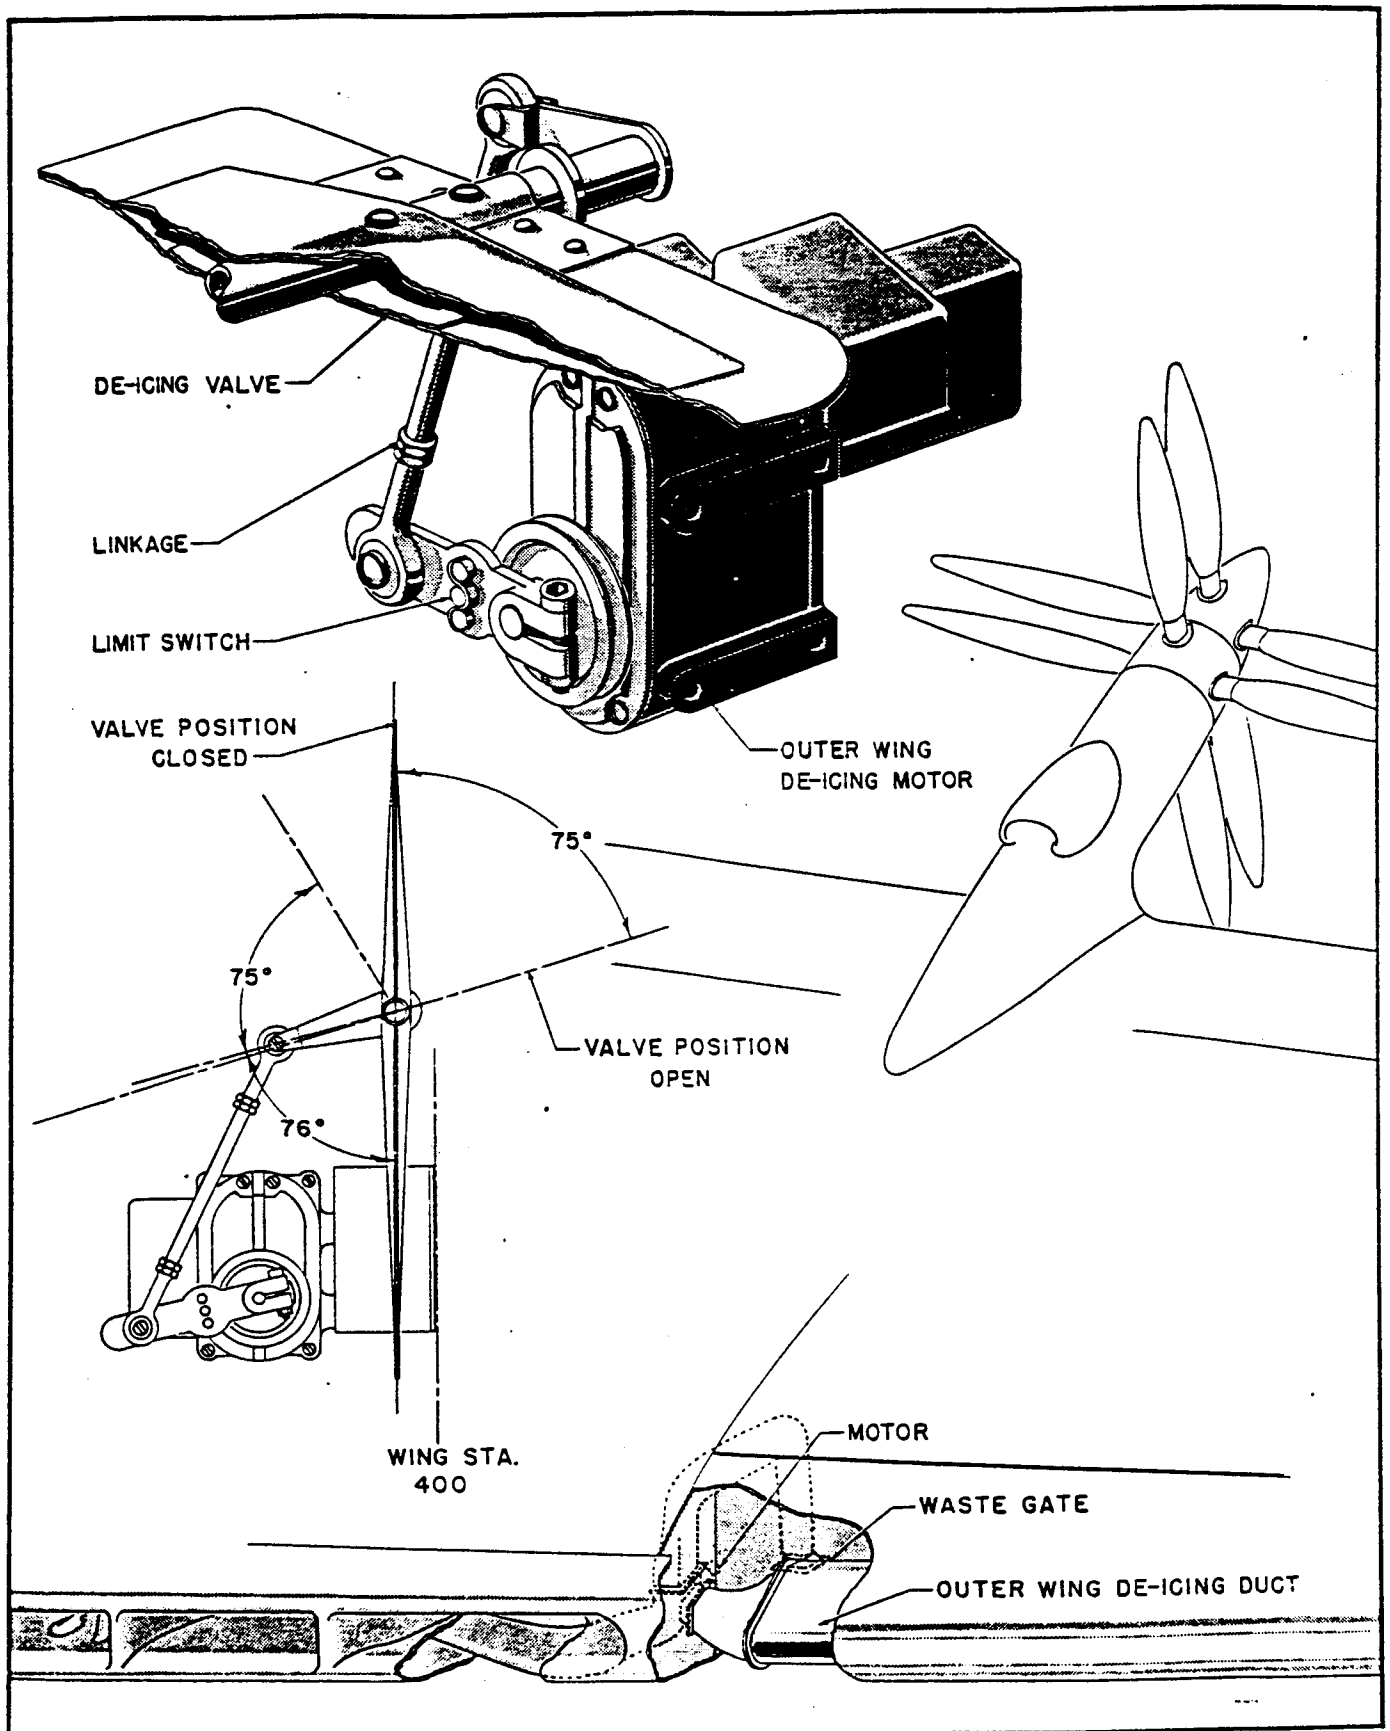

Figure 39. Outboard Wing De-icing Valve
the exhaust heat exchanger. The rammed cooling air for the outboard heat exchanger, after picking up heat from the exhaust, is normally directed through respective ducts to wastegates in the lower skin of the wing. (See figure 39.) This duct to the outboard wastegate has a branch duct which connects to a slotted duct that is installed in the leading edge of the outer wing. An electrically operated valve, installed in the entrance to the outer wing duct, permits the heated air from the outboard heat exchanger to be admitted into the duct when icing conditions are encountered. Openings in the lower wing skin provide for the discharge of air after it has passed through the ducts. The anti-icer valve is controlled by a two-position switch, located on the engineer's upper switch panel. The switch positions are designated "OFF" and "ON."
(2) OPERATION.- The valve that permits the flow of heated air to the outer wing anti-icing system is installed within the outer wing anti-icing duct at wing station 400 (figure 39.) This valve is of flapper type and is mounted on a shaft which turns through a 76° angle. The opening and closing of the valve is controlled by an electrically driven valve actuator motor, which is connected to the valve shaft by an adjustable arm. The actuator motor is reversible and operates on 28 volts d.c. which is derived from the same source as the current for the wastegate control. Built-in limit switches control the travel of the actuator. Electrical control of the anti-icer system is picked up through a circuit breaker type switch from a bus in the engineer's upper switch panel. When the switch is in the "ON" position the current energizes the coil of a two-pole, double-throw relay which is installed on the bomb bay No. 1 forward relay panel in the left wing, and another relay of the same type located on the bomb bay No. 8 forward relay panel in the right wing. These relays change the temperature control from the outboard thermal sensitive elements in the heat exchanger ducts to those installed in the leading edges of the outer wings, and also close a 28 volt d.c. circuit to the anti-icer valve actuator motor, causing it to open the valve. When the switch is returned to the "OFF" position, the temperature control is shifted back for normal operation, and another 28 volt d.c. circuit to the anti-icer valve actuator motor is completed, which reverses the motor and closes the valve. (See figure 40.)
(3) TROUBLE SHOOTING.